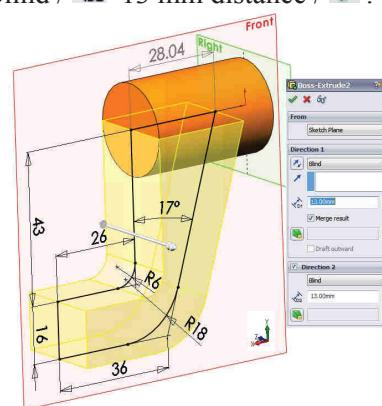

Fig. 2.4
**3 Trasare schiță 43x16x36x17°:** Comanda Sketch – Fig. 2.4 – plan Front.
**4 Extrudare contur 43x16x36x17°:** comanda Extruded Boss/Base – Fig. 2.4 - Blind /  $\Delta_{D1}$  13 mm distanță / Activare Direction 2 / Blind /  $\Delta_{D2}$  13 mm distanță /  .
**3 Sketching of the 43x16x36x17° contour:** The Sketch command – Fig. 2.4 – Front plane.
**4 Extrudation of the 43x16x36x17° contour:** the Extruded Boss/Base command – Fig. 2.4 – Blind  $\Delta_{D1}$  13 mm distance / Activate Direction 2 / Blind /  $\Delta_{D2}$  13 mm distance /  .